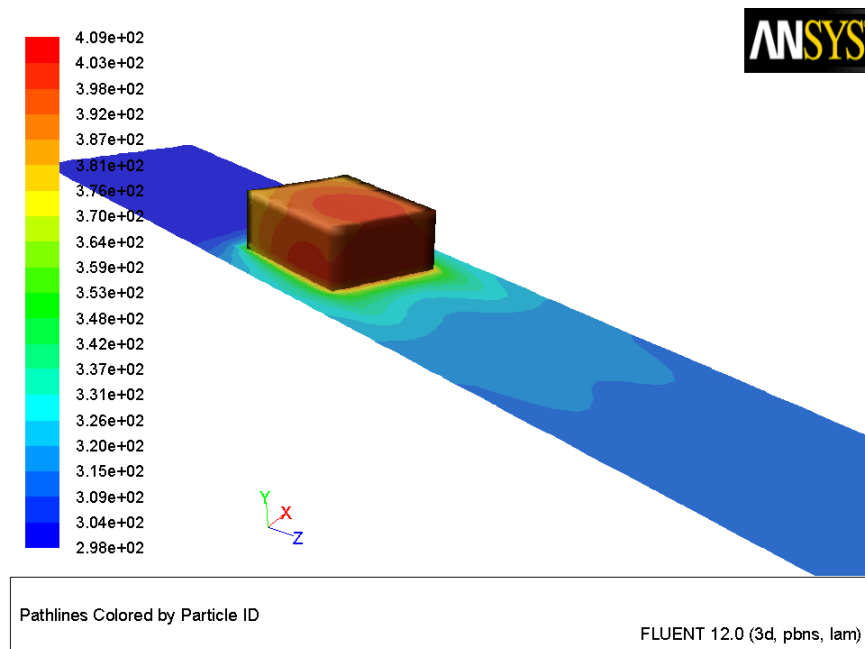

Figure 24.14: Filled Temperature Contours on the Chip and Board Top Surfaces
- (e) Rotate the view and zoom out the display so that the downstream side of the module is in the foreground (Figure 24.14).